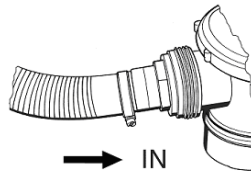

Fig. 2
2. *Inlet*: product input (Fig. 2, IN).